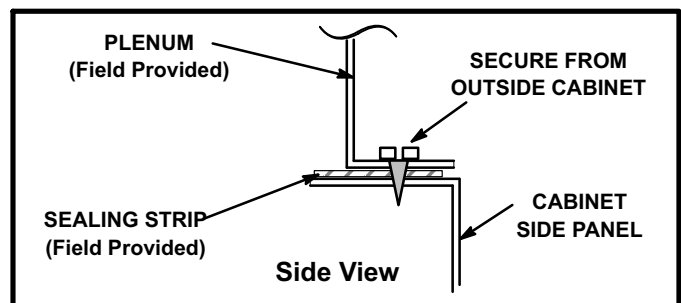

FIGURE 14
- 1 - Bottom edge of plenum should be flanged with a hemmed edge (See figure 14 or 15).